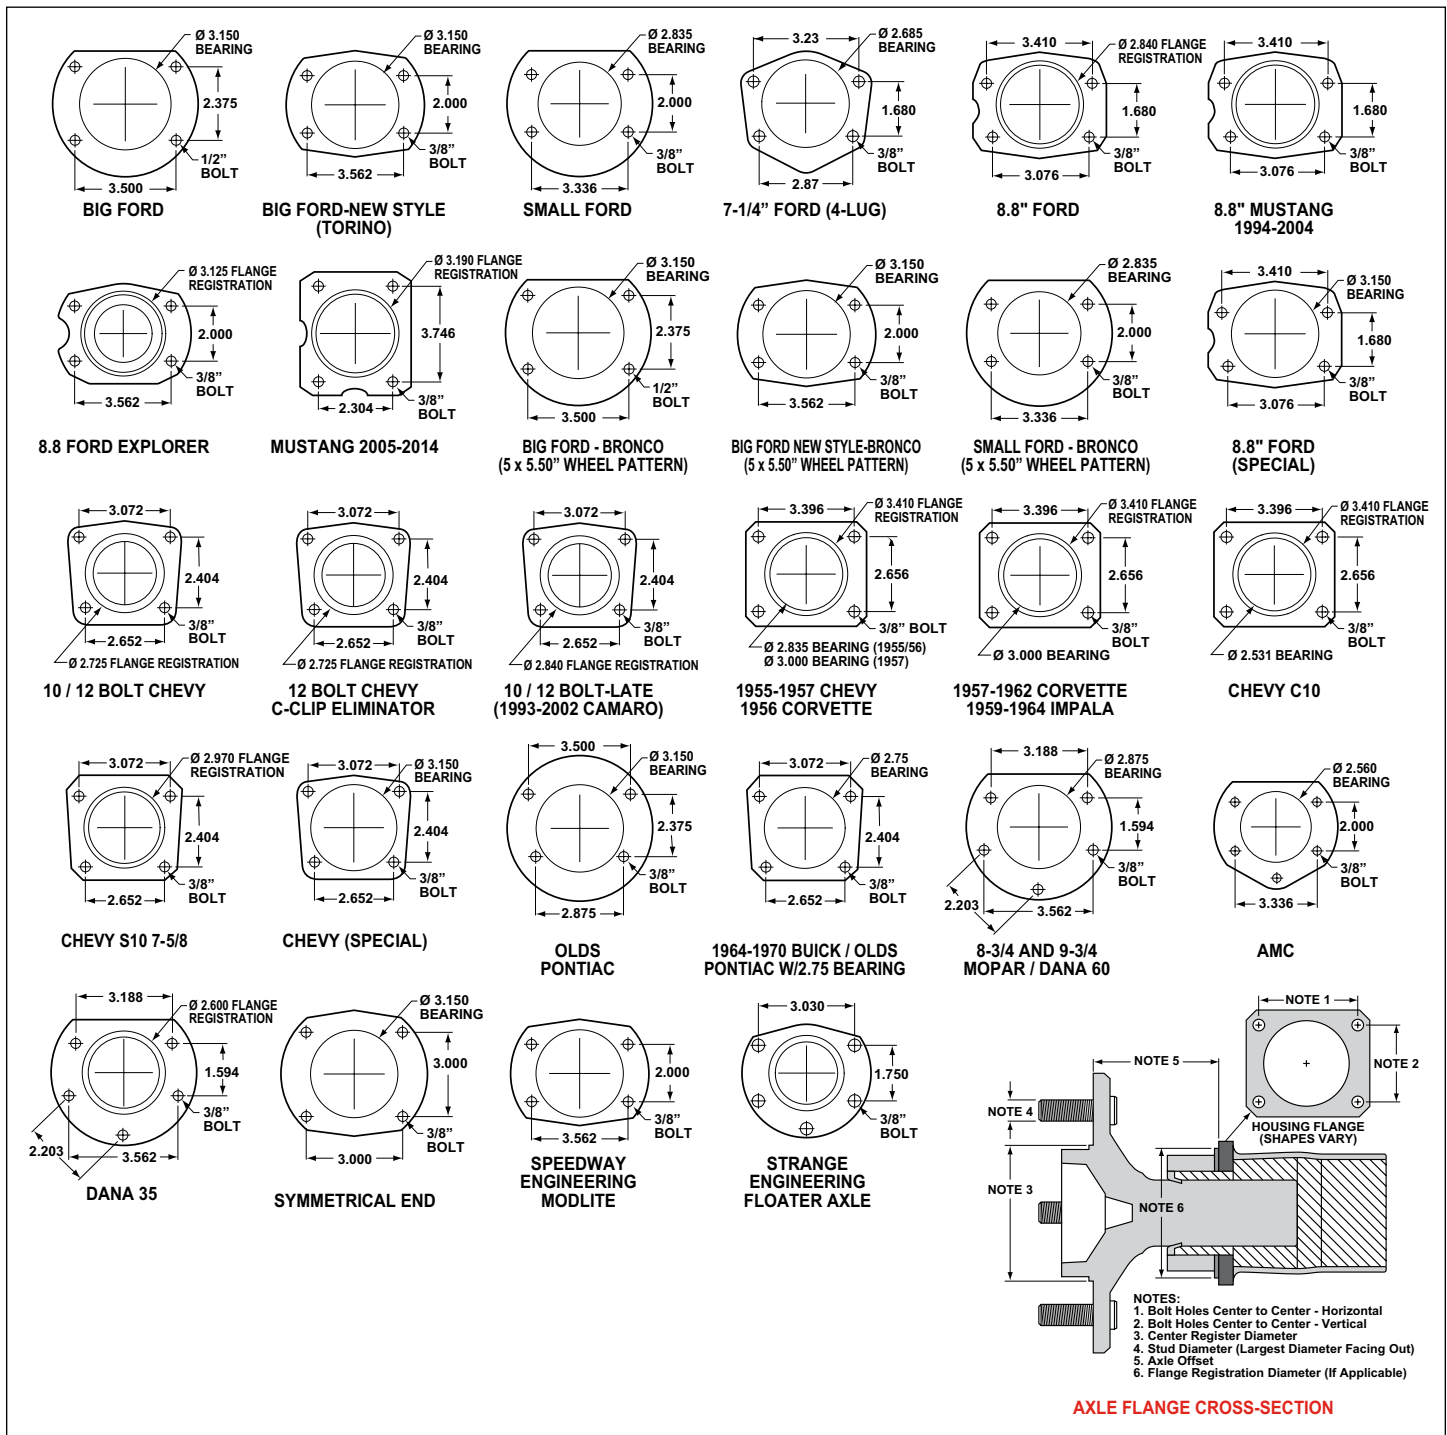

Figure 5. Rear Housing Flange Chart and Axle Flange / Offset Cross-Section
•Make sure this is the correct kit to fit the axle housing flange, not necessarily the rear end make. Many times aftermarket manufacturers put a different make of axle housing flange on the stock rear end housing (Figure 5). Example; Big Ford rear ends with Olds-Pontiac flanges, therefore, an Olds-Pontiac rear disc brake kit would be the correct kit to order. Also, shock clearance may be a problem. They may have to be modified and/or relocated to clear the Wilwood kit after final assembly.
- Bearing outside diameter, Figure 5.
- Axle housing flange registration diameter, Figure 5.
- Dimension from wheel side of axle flange to wheel side of axle housing flange (see Figure 5, Note 5, lower right hand corner). This dimension is critical to ensure proper alignment of the rotor to the caliper, and should match offset given in the kit description.